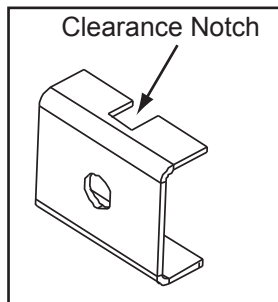

Figure 23.3
- e) Each clip has a clearance notch to allow room for the cast on the boss. Place the clips over the boss so that the notch is facing the outer edge of the surround. **Figure 23.3 on page 23.**